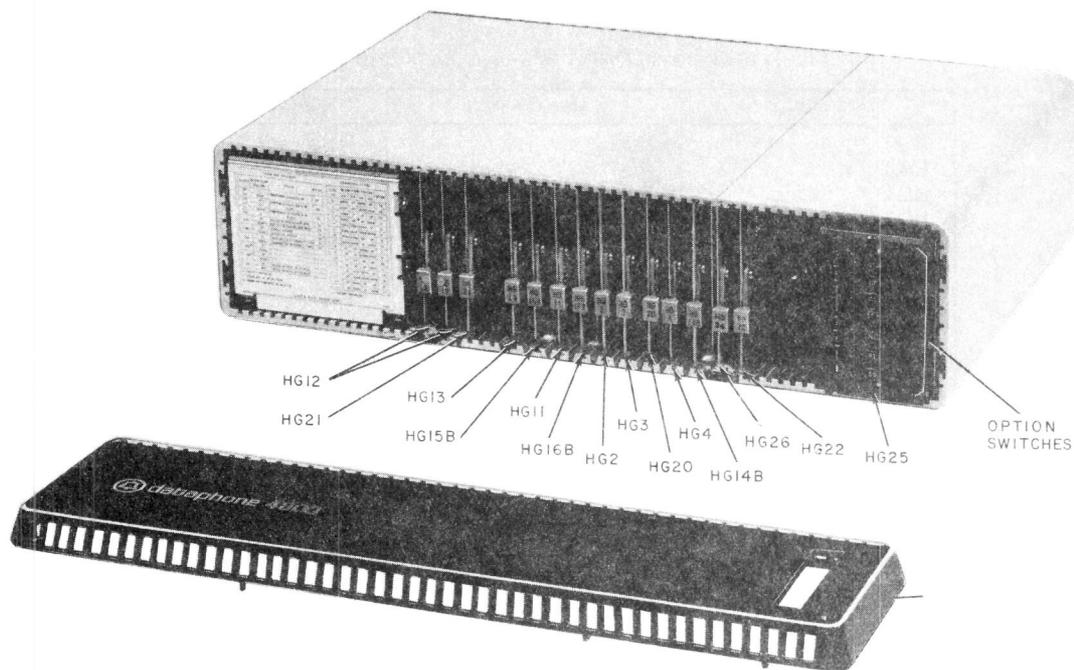

Fig. 5—Data Set 208B-L1B—Front View With Cover Removed
2.04 A front view of DS 208B-L1 and -L1A with plastic cover removed is shown in Fig. 4. A front view of DS 208B-L1B with plastic cover removed is shown in Fig. 5. Option switches, data set status lamps, and test switches are shown. A summary of the CPs used in each of the DS 208B-type is presented in Table A. Methods used for installing and removing options are explained in detail in Section 592-030-200.